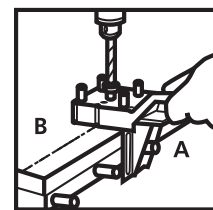

Figure 20
- Using the Quick Dowel Jig as a guide, set the depth stop on the drill bit so you do not drill through board B. Drill a hole for each dowel pin. See Figure 20.